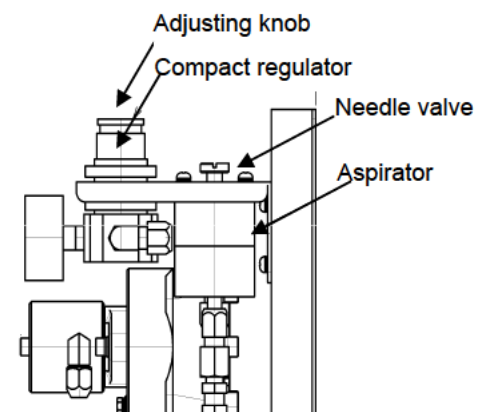

Figure 1: Detector side view
- (1) Check that the supply side of compressed air is closed.
- (2) After making sure that the lock ring of the compact regulator adjusting knob is located at the upper side (if it is at the far side, the knob will not turn), turn the adjusting knob to the underside (counterclockwise) until it stops. (Figure 1)
- (3) Turn the needle valve clockwise until it stops, and then turn it counterclockwise by two turns. (Figure 1)
- (4) Open the supply side of compressed air.
- (5) Turn the compact regulator adjusting knob slowly to the HIGH side (clockwise) until the float of the MC filter with flow monitor makes contact with the upper stopper and stops, and then move the lock ring to the far side to lock the adjusting knob.